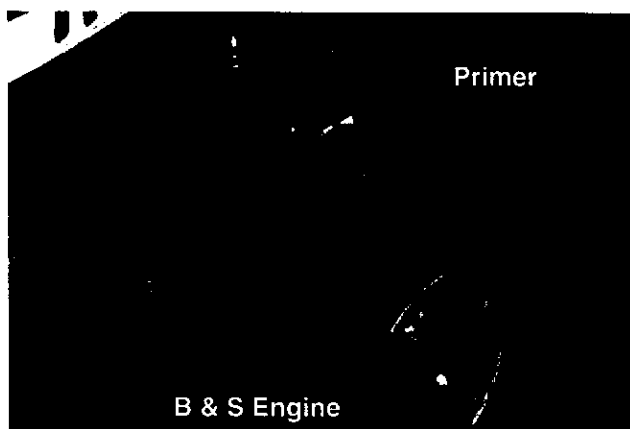
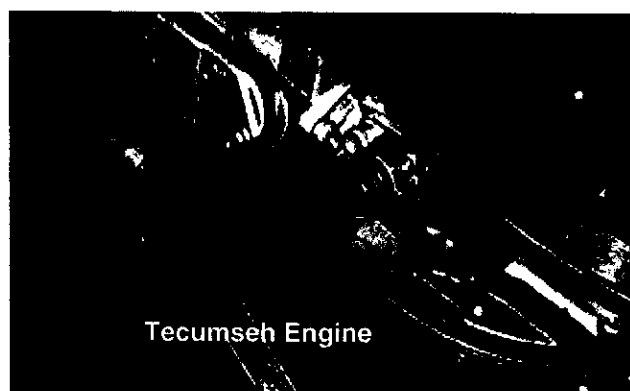

Figure 7
Figure 8
The primer is used to pump gas into the carburetor. Use it to start a cold engine, but do not use it to restart a warm engine after short shutdown. Refer to the engine manual. See Figure 7 and Figure 8.
4. Push the primer bulb in two or three times. Wait two to three seconds between each push. In cold weather (below 50 degrees F/19 degrees C) push five (5) times. Refer to Figure 7.